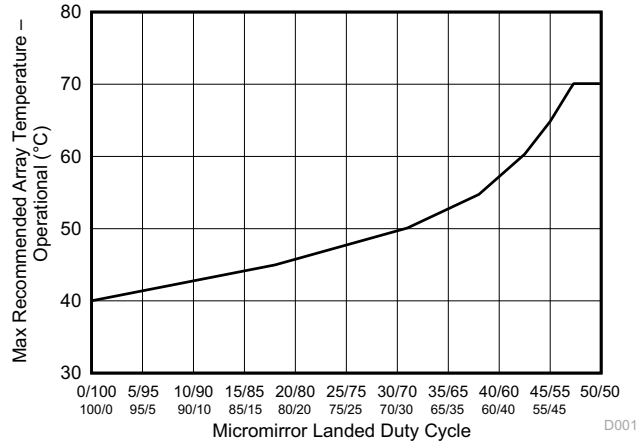

图 6-1. Max Recommended Array Temperature—Derating Curve
- (5) Per Figure 6-1, the maximum operational array temperature should be derated based on the micromirror landed duty cycle that the DMD experiences in the end application. Refer to Section 7.7 for a definition of micromirror landed duty cycle.
- (6) Long-term is defined as the usable life of the device
- (7) Array temperatures beyond those specified as long-term are recommended for short-term conditions only (power-up). Short-term is defined as cumulative time over the usable life of the device and is less than 500 hours for temperatures between the long-term maximum and 75°C, and less than 500 hours for temperatures between 0°C and - 20°C.